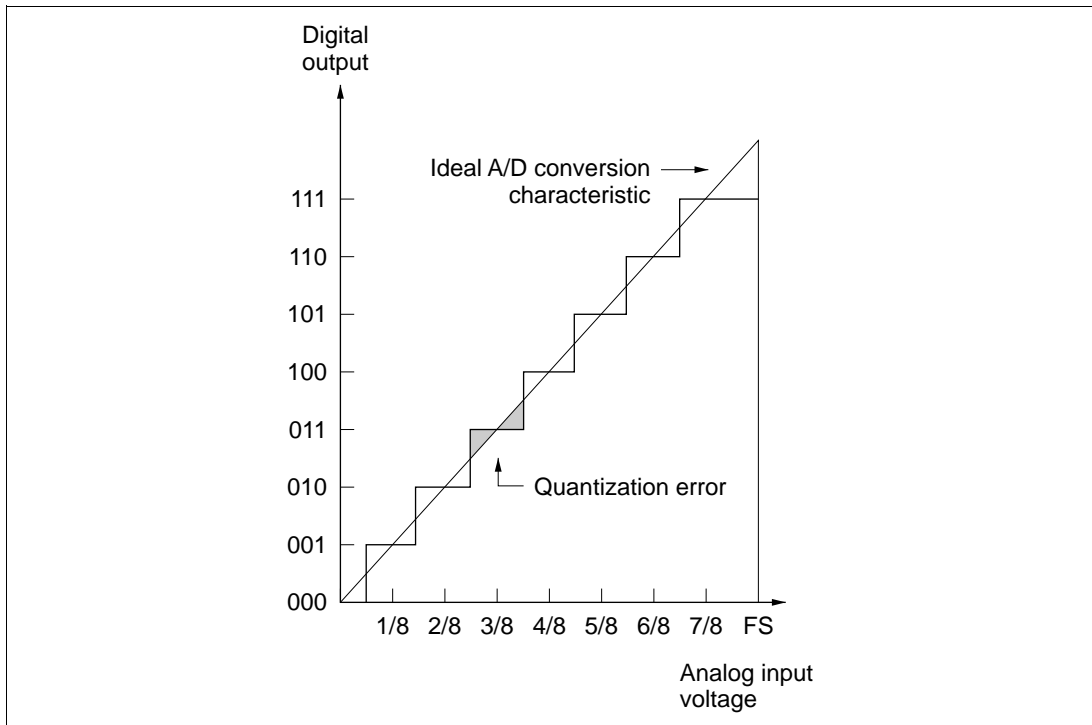

Figure 14.9 A/D Converter Accuracy Definitions (1)
- Quantization error:Intrinsic error of the A/D converter; 1/2 LSB (figure 14.9)